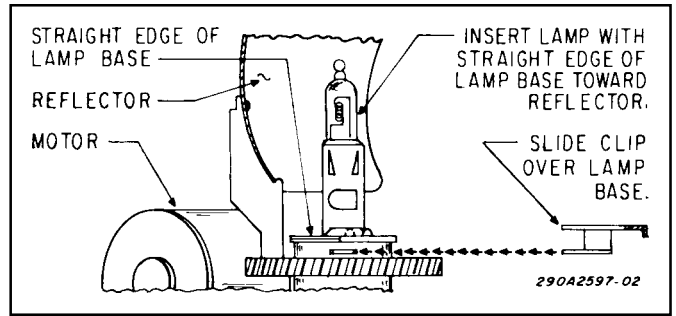

Figure 5.
b. See figure 5. Note the lamp's orientation and replace the lamp (Federal Part No.